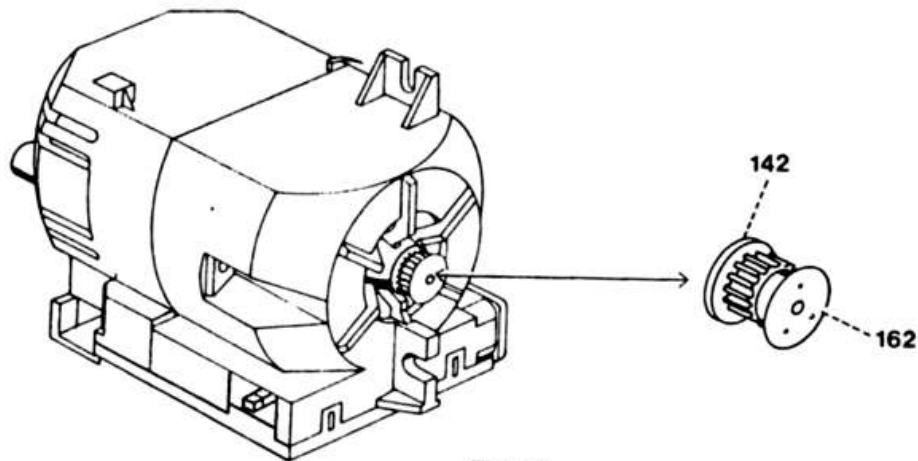

Fig. 34
- Insert two screwdrivers of the same width between pinion 142 and the motor bearing (fig. 34).